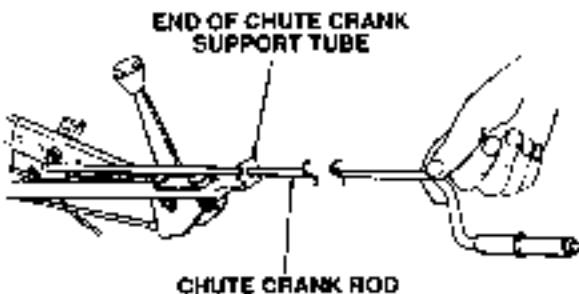

Figure 7-29. Install Chute Crank Rod.
5. Install the chute tilt handle assembly (9) on the support tube (2) with the carriage bolts (7) and hex flange top lock nuts (8). See Figure 7-29.
7. Insert the chute crank rod (23) through the hole in the rearward end of the support tube (2). Refer to Figure 7-29.